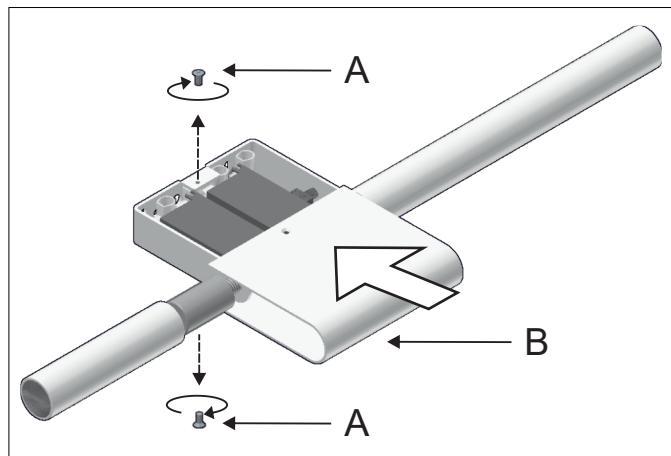

Figure 7
- 7 - Put the cover plate [B] back in place and fix it with the screws [A]. Figure 7.